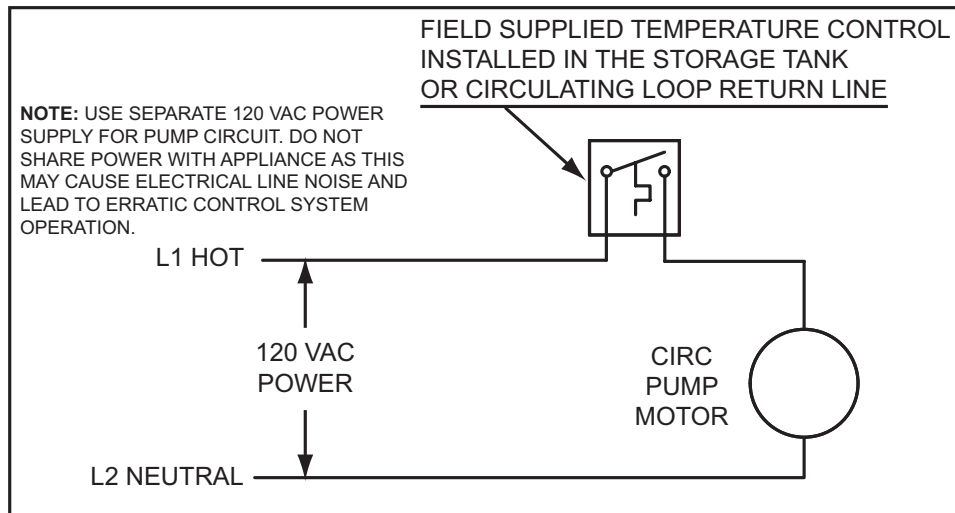
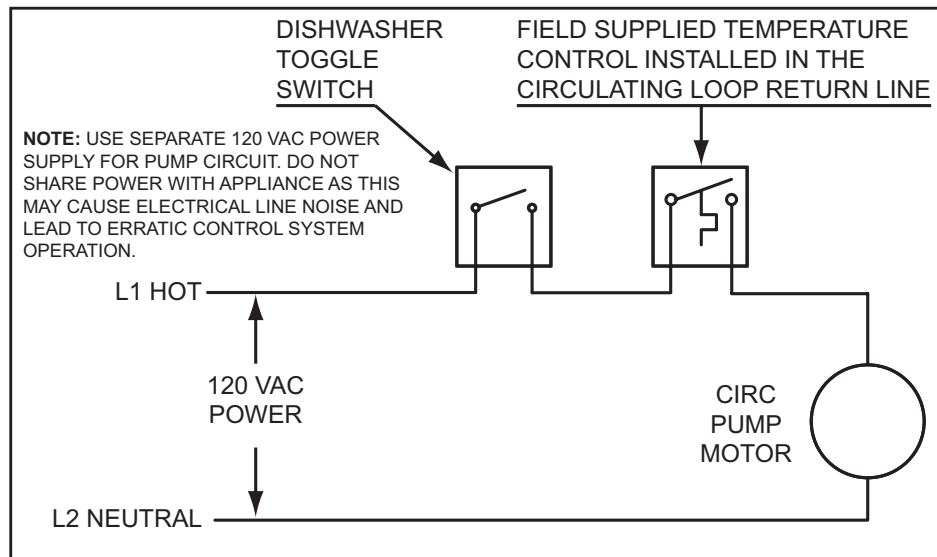

Figure 64
Figure 65
6. If a pump is being installed between a water heater and storage tank or on a building recirculation loop wire according to Figure 64 on page 67.
7. If a pump is being installed in a recirculation loop between the water heater and a commercial dishwasher wire according to Figure 64 or Figure 65 on page 67.
6. If a pump is being installed between a water heater and storage tank or on a building recirculation loop wire according to Figure 64 on page 68.
7. If a pump is being installed in a recirculation loop between the water heater and a commercial dishwasher wire according to Figure 64 or Figure 65 on page 68.
6. If a pump is being installed between a water heater and storage tank or on a building recirculation loop wire according to Figure 64 on page 69.
7. If a pump is being installed in a recirculation loop between the water heater and a commercial dishwasher wire according to Figure 64 or Figure 65 on page 69.
6. If a pump is being installed between a water heater and storage tank or on a building recirculation loop wire according to Figure 64 on page 70.
7. If a pump is being installed in a recirculation loop between the water heater and a commercial dishwasher wire according to Figure 64 or Figure 65 on page 70.
6. If a pump is being installed between a water heater and storage tank or on a building recirculation loop wire according to Figure 64 on page 71.
7. If a pump is being installed in a recirculation loop between the water heater and a commercial dishwasher wire according to Figure 64 or Figure 65 on page 71.
6. If a pump is being installed between a water heater and storage tank or on a building recirculation loop wire according to Figure 64 on page 72.
7. If a pump is being installed in a recirculation loop between the water heater and a commercial dishwasher wire according to Figure 64 or Figure 65 on page 72.